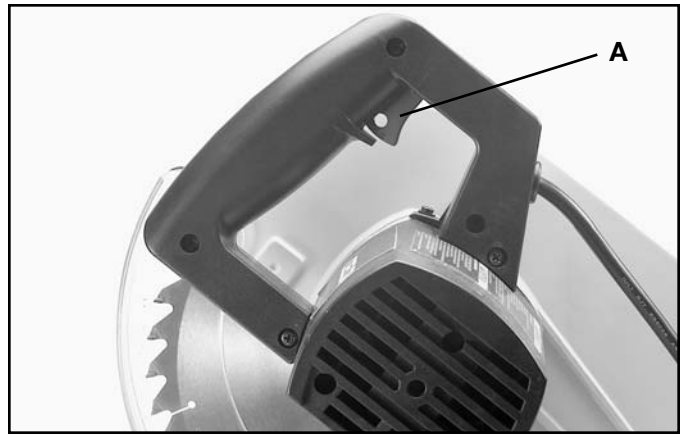
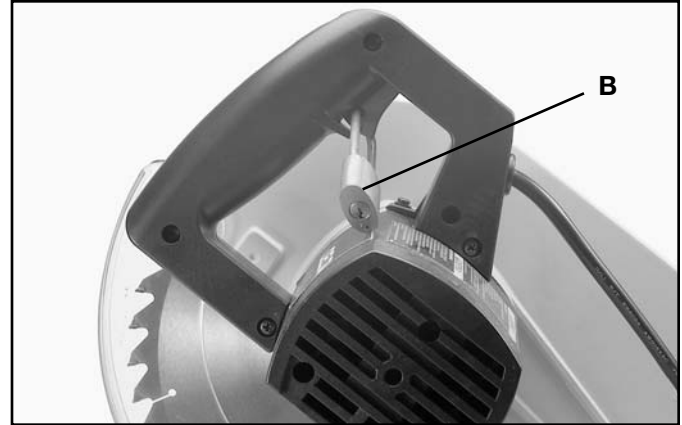

Fig. 12
Fig. 13
To start the machine, depress switch trigger (A) Fig. 12. To stop the machine, release the switch trigger.
This miter saw is equipped with an automatic electric blade brake. As soon as the switch trigger (A) Fig. 12, is released, the electric brake is activated and stops the blade in seconds.
⚠ WARNING: A TURNING SAW BLADE CAN BE HAZARDOUS. AFTER COMPLETING CUT, RELEASE SWITCH TRIGGER (A) FIG. 12, TO ACTIVATE BLADE BRAKE. KEEP CUTTINGHEAD DOWN UNTIL BLADE HAS COME TO A COMPLETE STOP.
IMPORTANT: When the miter saw is not in use, the switch should be locked in the “OFF” position using a padlock (B) Fig. 13, (with 3/16" diameter shackle) through the two holes (A) Fig. 12 in the switch plate, as shown in (A) Fig. 12. NOTE: Padlock shown is available as accessory Model 50-325.